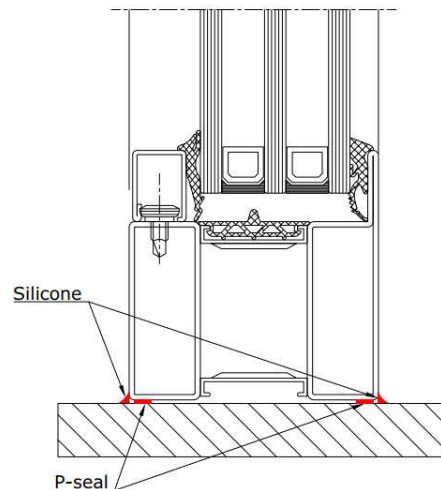

Figure 6 Adding silicone and P-seals
4. If necessary, two rows of P-seals can be glued under the frame for additional sealing (Figure 6).
- 12. Use silicone Soudaflex 40FC, SOUDAL Silirub 2/S or Penosil General Silicone for the threshold and/or wall section (Figure 6).